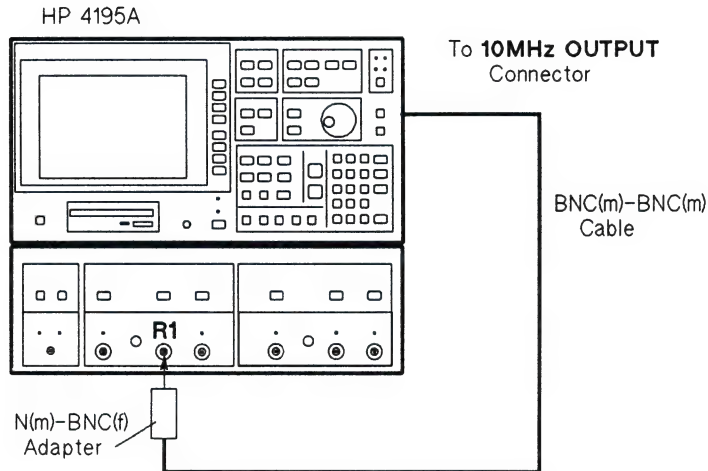

Figure 3-2. Spectrum Measurement Example Setup
7. Connect the **10 MHz OUTPUT** connector on the control unit rear panel and the **R1** connector on the measurement unit front panel as shown in Figure 3-2.